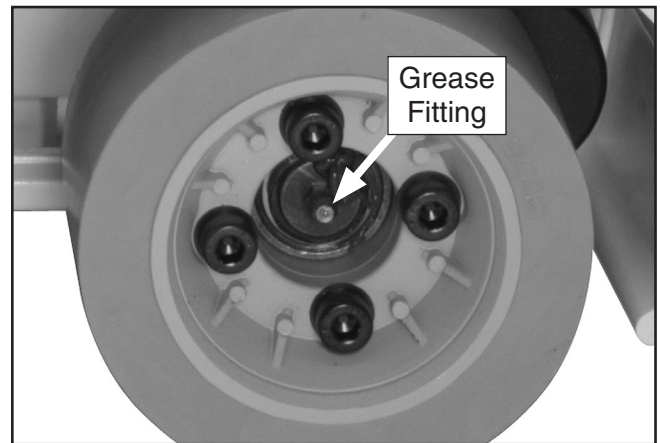

Figure 14. Wheel lubrication.
- Every 40 hours of use, or once every two weeks, wipe clean and lubricate the wheel grease fittings (**Figure 14**) with one pump from a grease gun filled with automotive grade GL-2 grease.